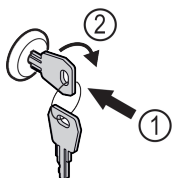

Fig. 152 Example illustration
- Insert key Fig. 152 (1).
- Turn key clockwise by 90° Fig. 152 (2).